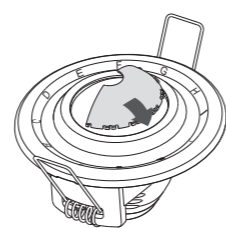

FIG. 18
- Fixing lens shield: There is circular hook on the back of the decorative frame and the lens shield is designed with a circular groove. The lens shield can be fitted by joining the groove of lens shield with its corresponding hook on the decorative frame (See FIG.18).